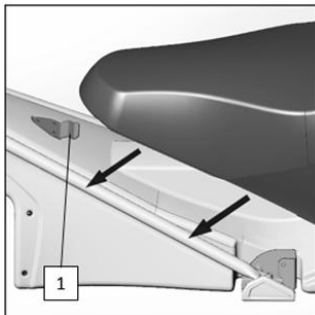

Fig. 23
1. Fix the seat on the fixed plate (posture 1, Figure 23); Raise the rear of the seat 15 cm.